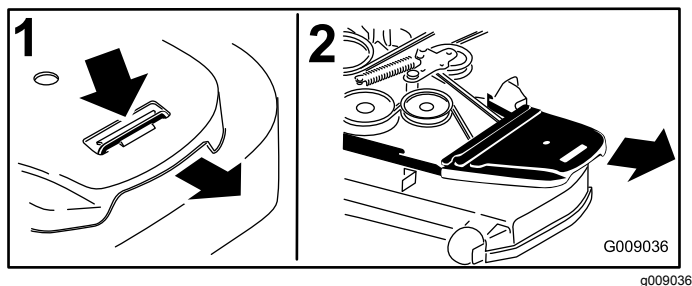

Figure 89
5. Remove the plastic belt cover (Figure 89).
- Remove the belt covers (Figure 89).